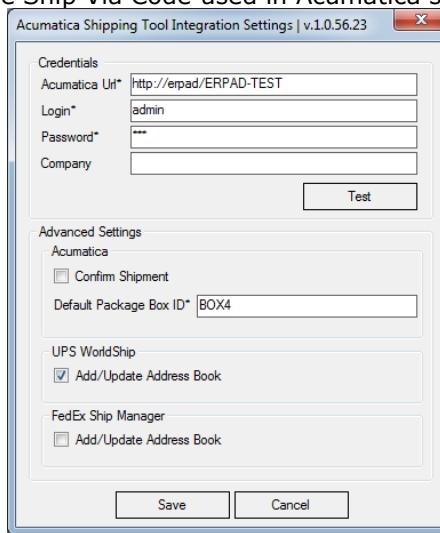

Figure 1 – Administrative settings
After the Acumatica Shipping Tool installation, the following required parameters must be set up in the administrative settings window (Fig. 1):
- **Settings** – opens the Administrative settings screen (see Fig. 1).